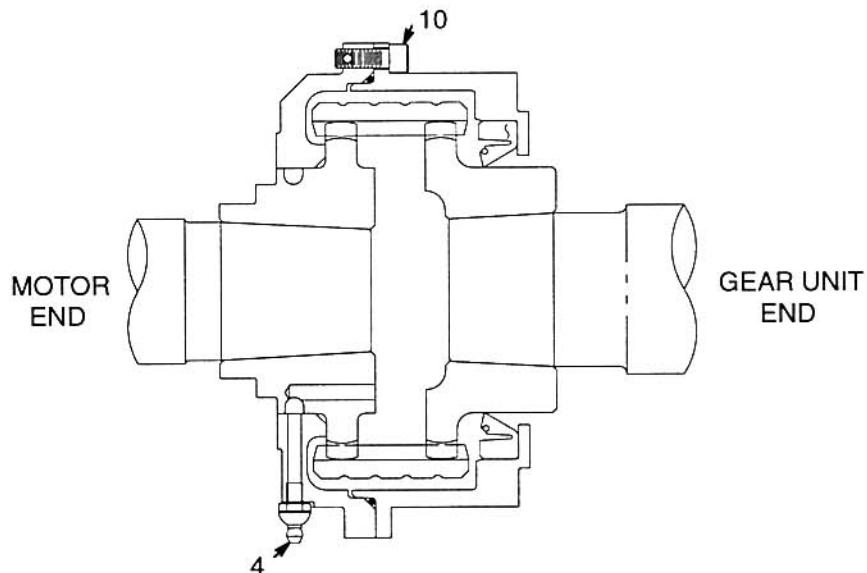

Figure 7-85 Service/Inspect Coupling
Using a grease gun, apply approximately 0.75 oz. of GE Spec. D50E17 (Alvania No. 2EP or equivalent) grease into grease fitting (4, Figure 7-85) of the motor end coupling.
- a. Inspect for loose or damaged hardware (10, Figure 7-85). Torque to 24 ft.-lbs. or replace as necessary.
- b. Inspect for loose, damaged or missing grease fittings (4). Torque to 120 in.-lbs.